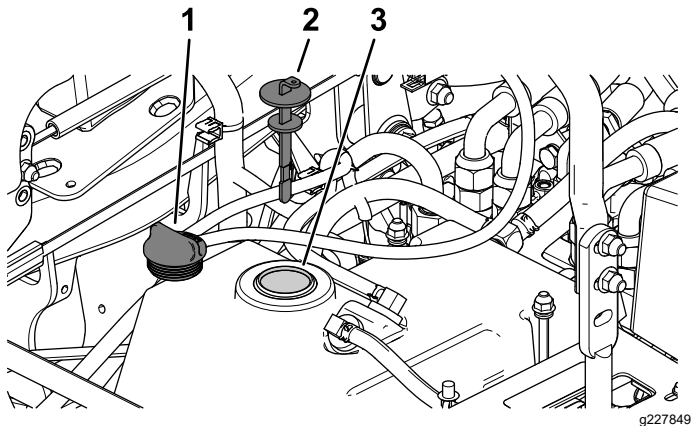

Figure 66
5. Remove the hydraulic-tank cap (Figure 66).
6. Remove the dipstick and wipe it with a clean rag (Figure 66).